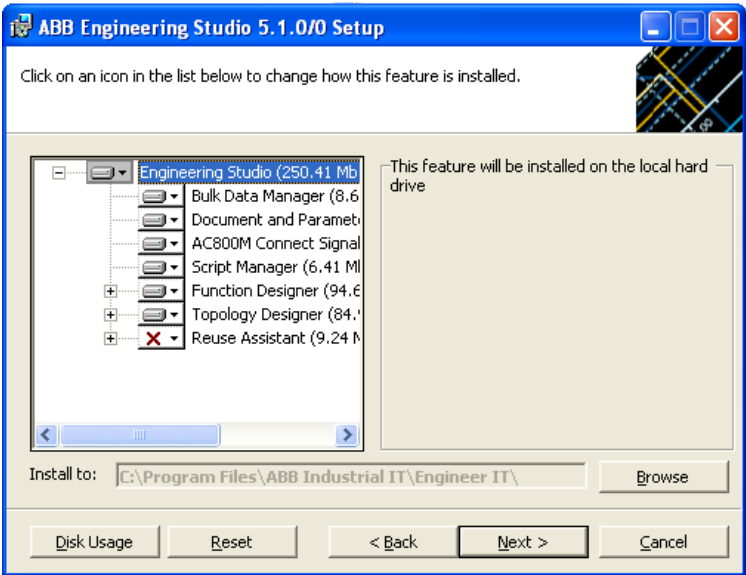

Figure 47. Engineering Studio Change Feature Dialog Box
1. Select **Custom** and click **Next**. This opens the Change Feature dialog box shown in Figure 47.